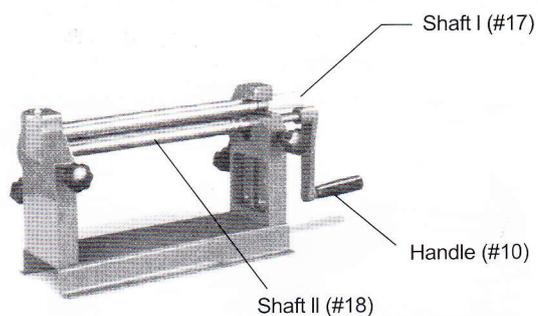

Figure 5-Wire Forming
Step 5: To form wires, select the smallest groove that you can use and put the edge of that wire on the groove of SHAFT11. Other operations are identical to sheetmetal forming. See Figure 5.